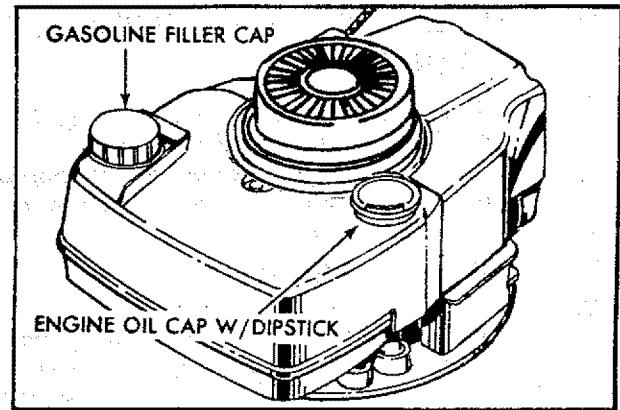

FIG. 13
1. Remove engine oil cap with dipstick and fill to the "FULL" line on the dipstick, using about 1 pint or 0.5 liters of Sears 10W30 oil or equivalent. SAE 30 oil can also be used (See Fig. 13). DO NOT use SAE 10W40 oil.
4. Fill the gasoline tank with about one and one half (1 1/2) quarts of fresh clean unleaded automotive gasoline. Regular leaded gasoline can also be used (See Fig. 13)